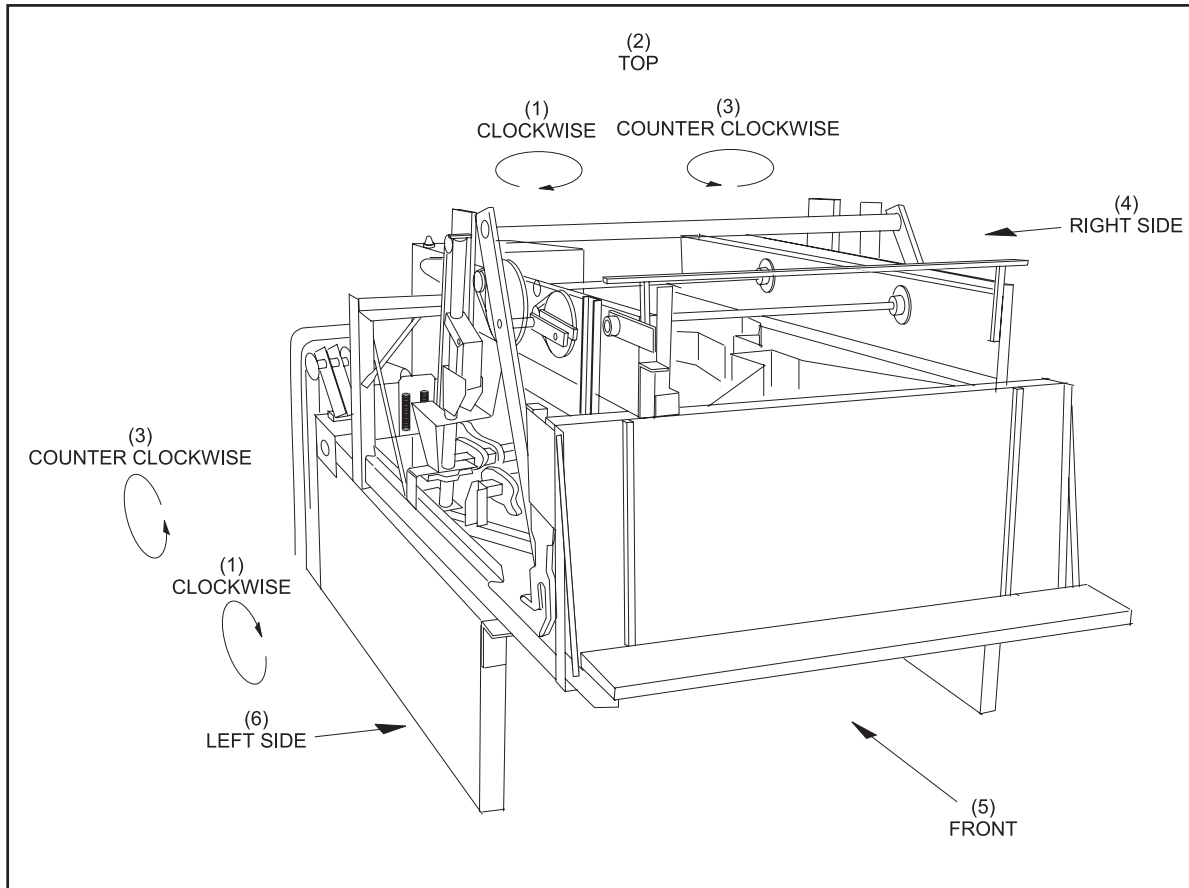

Figure 1-1. Pinsetter Orientation
Whenever any position such as right, left, forward or rearward, is described this manual, the position is determined while viewing the machine from the foul line. The motion Clockwise (CW) and counterclockwise (CCW), is determined while looking at the pinsetter from the left side or top. Refer to *Figure 1-1*.